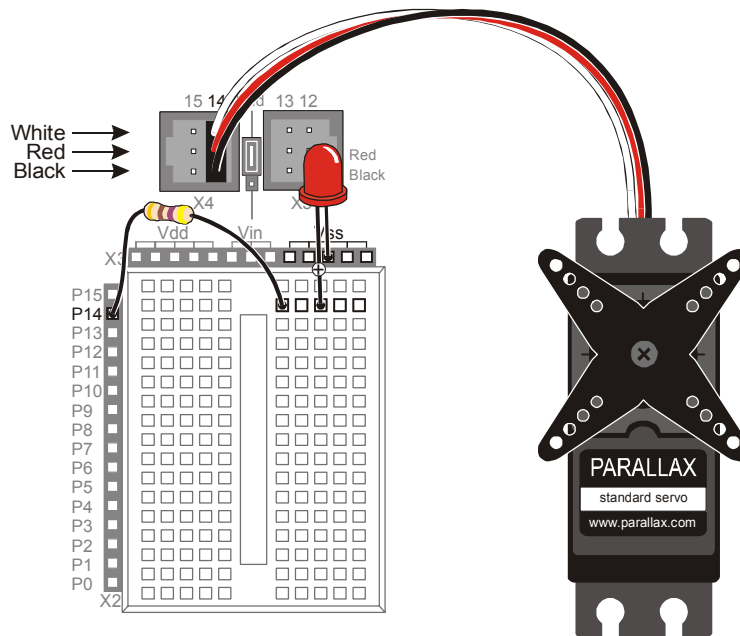

Figure 4-6
- ✓ Build the circuit shown in Figure 4-6.